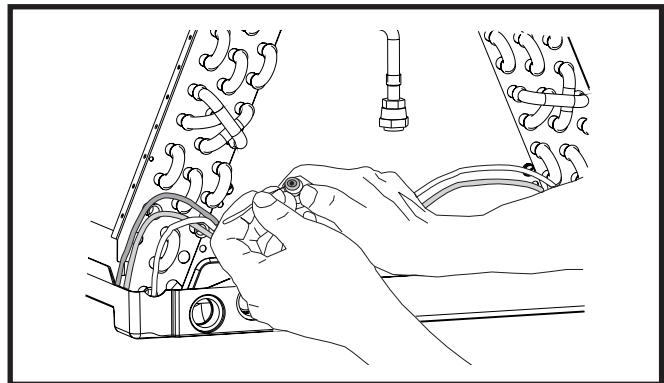

Figure 8. Restrictor Insertion into Distributor Body
8. Insert the new orifice into the distributor body, rounded end down. See Figure 8.
- The drain pan that is supplied with this air handler contains a primary and secondary drain fitting. The condensate is drained from the unit through two 3/4" female pipe fittings located on the front side of the unit as shown in Figure 8.